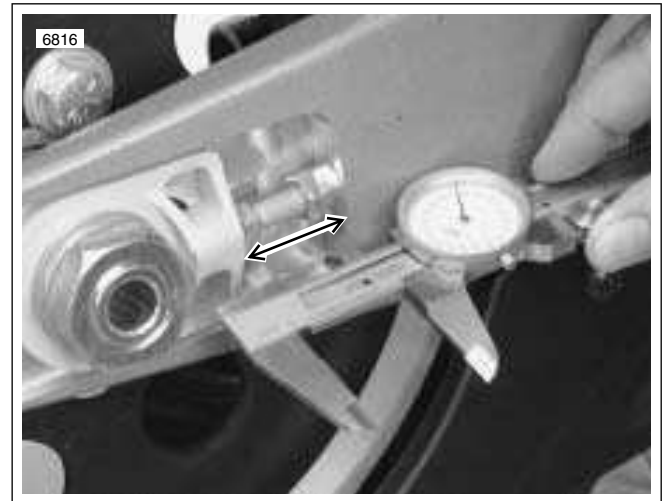
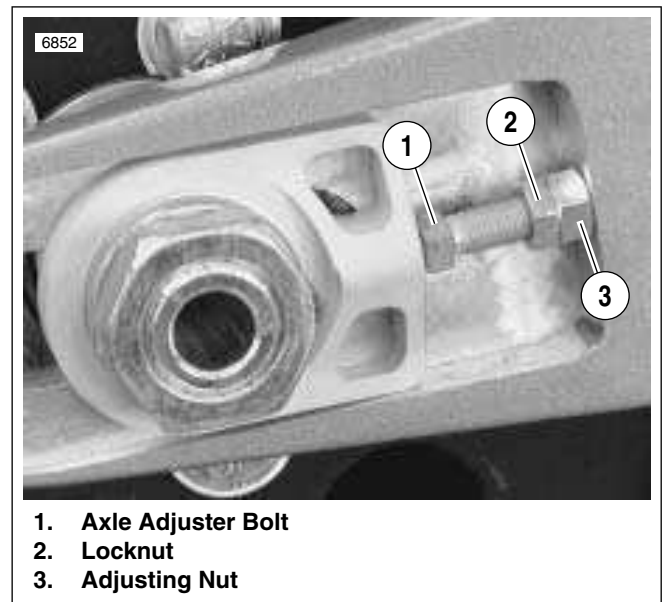

Figure 1-23. Checking Rear Wheel Alignment, Right Side Shown
Figure 1-24. Axle Adjuster Bolt, Right Side Shown
1. See Figure 1-23. Measure each side from the flat of the axle carrier to the flat of the swingarm.
See Figure 1-24. Use an automotive-style ignition wrench to hold axle adjuster bolt (1) in place during Step 2.
3. To adjust belt deflection/rear wheel alignment, loosen locknut (2), hold axle adjuster bolt (1) and turn adjusting nut (3).
- a. If belt is too loose, tighten adjusting nut (3) to decrease deflection and therefore increase drive belt tension.
- b. If belt is too tight, loosen adjusting nut (3) to increase belt deflection and therefore decrease drive belt tension.
- c. See Figure 1-23. Repeat this step until the distance between the flat on the axle carrier and the flat of the swingarm is the same on both sides of the rear wheel and belt deflection is correct.
4. See Figure 1-24. Tighten locknut (2) flush against adjusting nut (3).